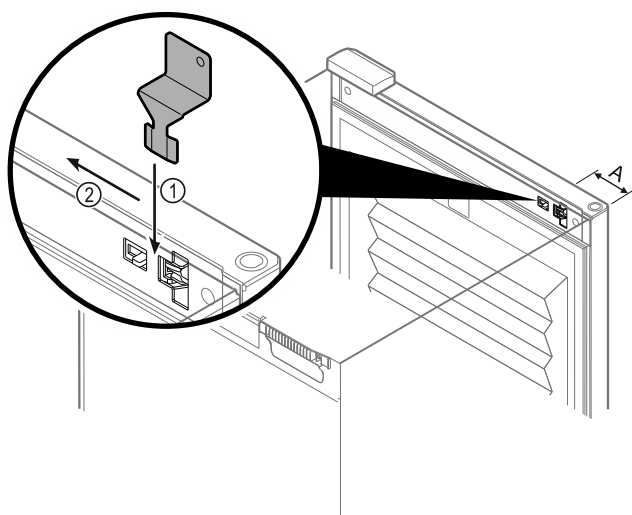

Fig. 146
- Insert the emergency release key in the specified position Fig. 146 (A) ≈ 100 mm.
- Insert the emergency release key Fig. 146 (1) between the door and the body of the appliance from above to the end stop.
- Pull the emergency release key towards the hinge. Fig. 146 (2)